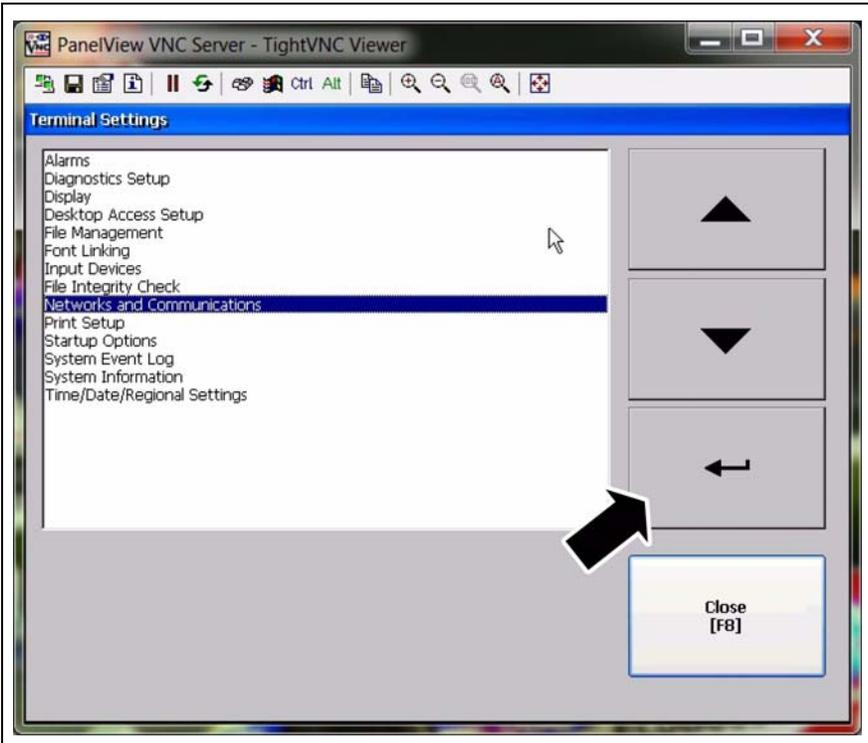

Figure 4B
- 2. Select Networks and Communications and press Enter. (See Figure 4B.)